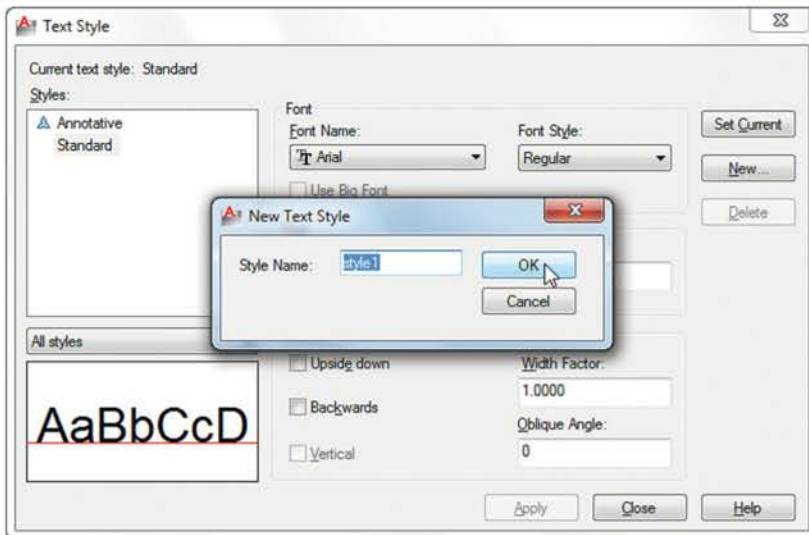

Fig. 5.8 The New Text Style sub-dialog
3. *Left-click* the **New** button and *enter Arial* in the **New text style** sub-dialog that appears (Fig. 5.8) and *click* the **OK** button.